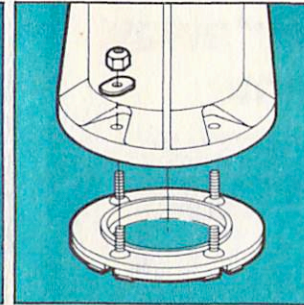

Figure 3
**6.** Set Traveler toilet in place with bolts protruding up through mounting holes in base. (See Fig. 3).